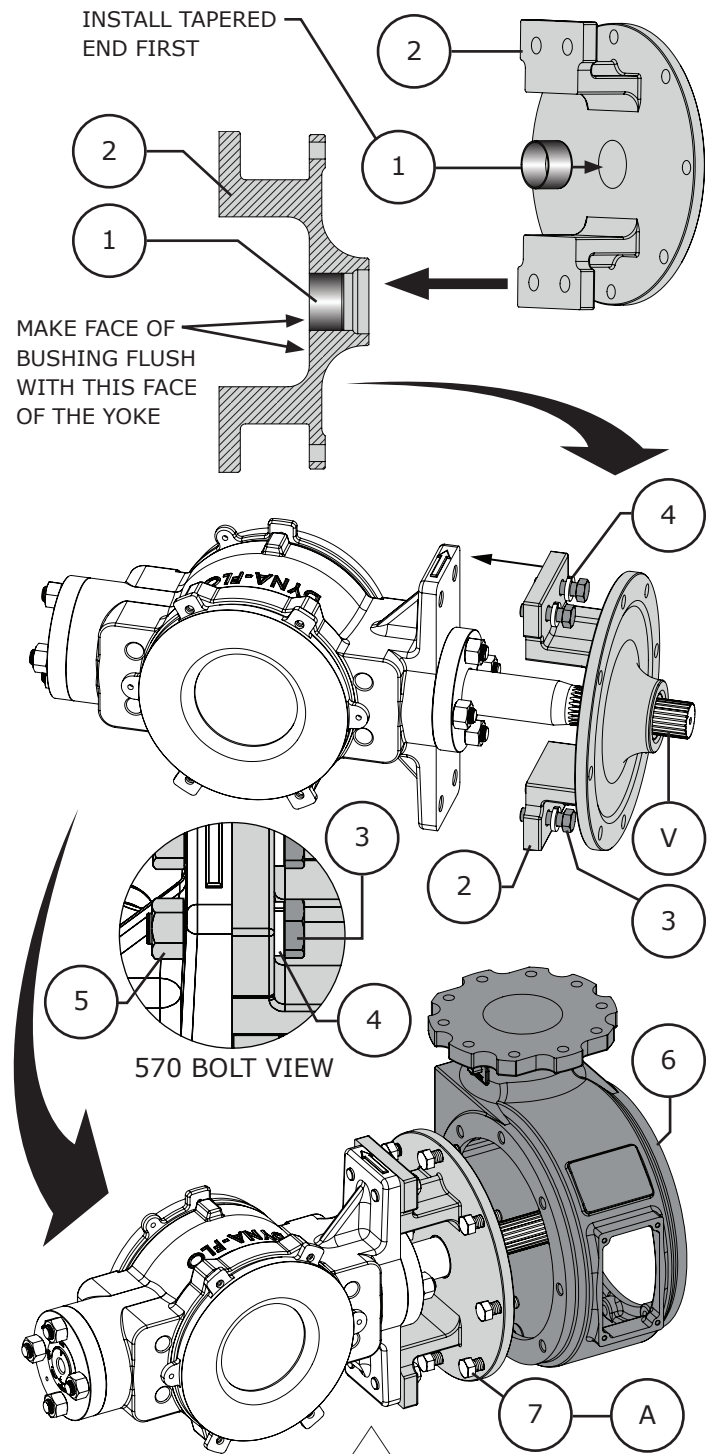

Figure 20 Yoke / Housing / Valve Assembly
- 1 If the bushing (Key 1) was removed from the yoke (Key 2), press in a new bushing. The end of the bushing should be flush with the outside face of the yoke (see Figure 20).